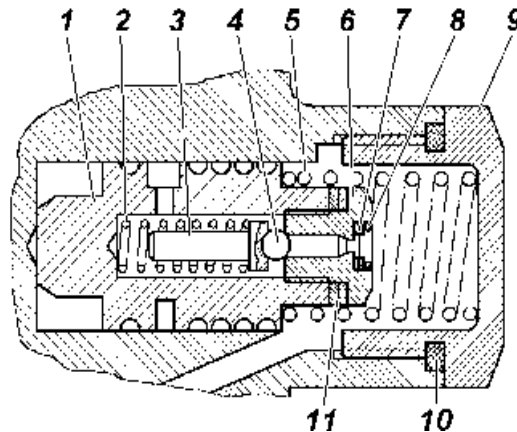

Fig. 9.27 Flow control valve and safety valve of the pump:
1. Unscrew blind plug 9 (Fig. 9.27) located above the pump outlet.